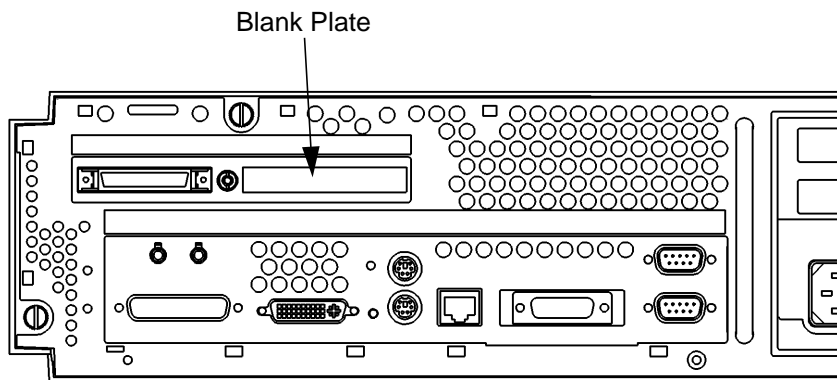

Figure 66 **Removing the Blank Plate**
- 5 Remove the two screws and remove the blank plate from the rear panel, as shown in Figure 66.